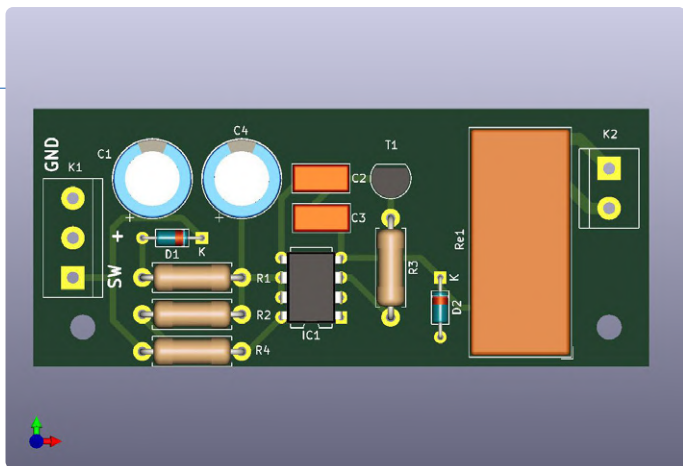
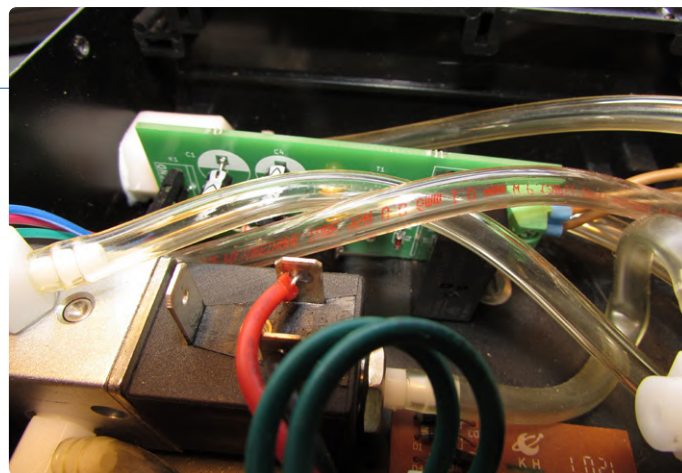

Figure 2: 3D view of the PCB.
Figure 3: The board mounted between the dispenser's air hoses.
**Unplug the power cable before opening the enclosure of the dispenser!** The PCB (**Figure 2**) is a quick-and-dirty design I made with standard KiCad libraries, nothing fancy. The design and Gerber files can be downloaded from [1]. It was made to fit inside the enclosure of my dispenser; the space is a bit tight but the board is relatively small. **Figure 3** shows the board mounted and connected. The GND and SW terminals (K1 pin 3 and pin 1, respectively) are connected to the jack